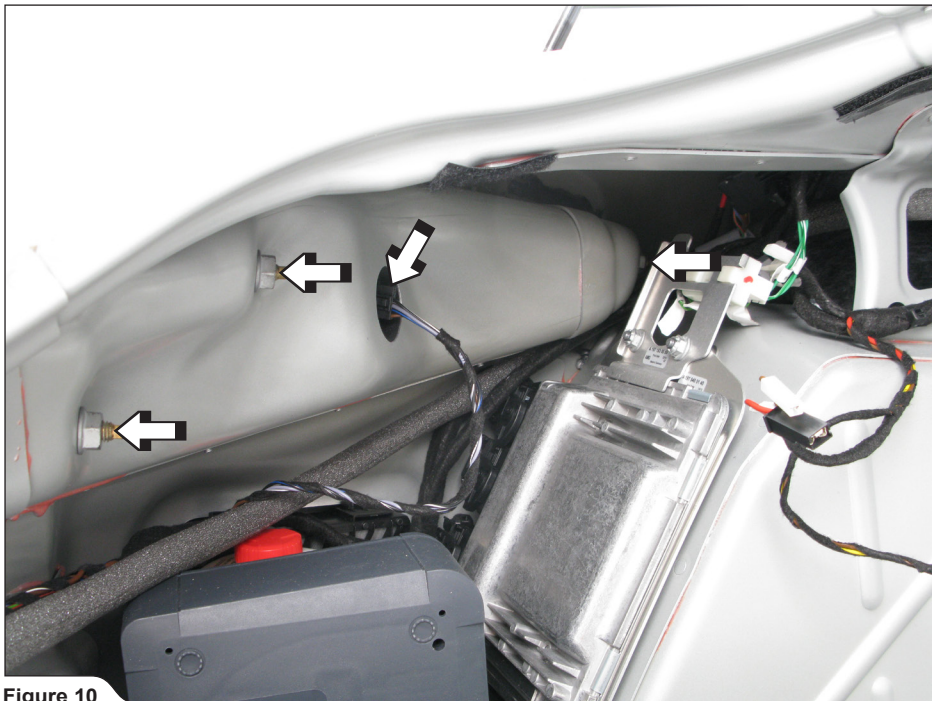

Figure 10
8. Disconnect marked electrical connectors, unscrew marked nuts and carefully remove tail lights from both side of the vehicle (**Figure 10**).